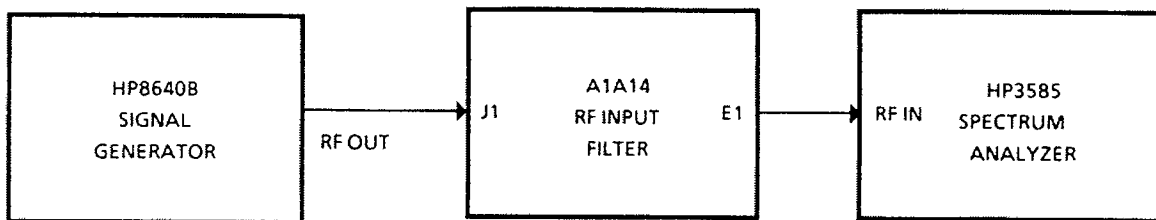

Figure H-2. HFE Option Performance Test, Equipment Connections
1. Connect the test equipment as illustrated in **Figure H-2**.